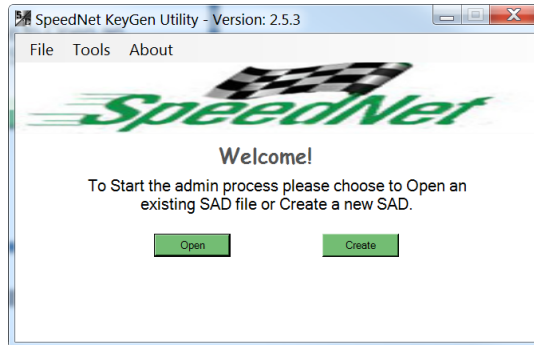

Figure 3. KeyGen application launch window.
STEP 1. Launch the KeyGen application. The main window will open. See Figure 3.